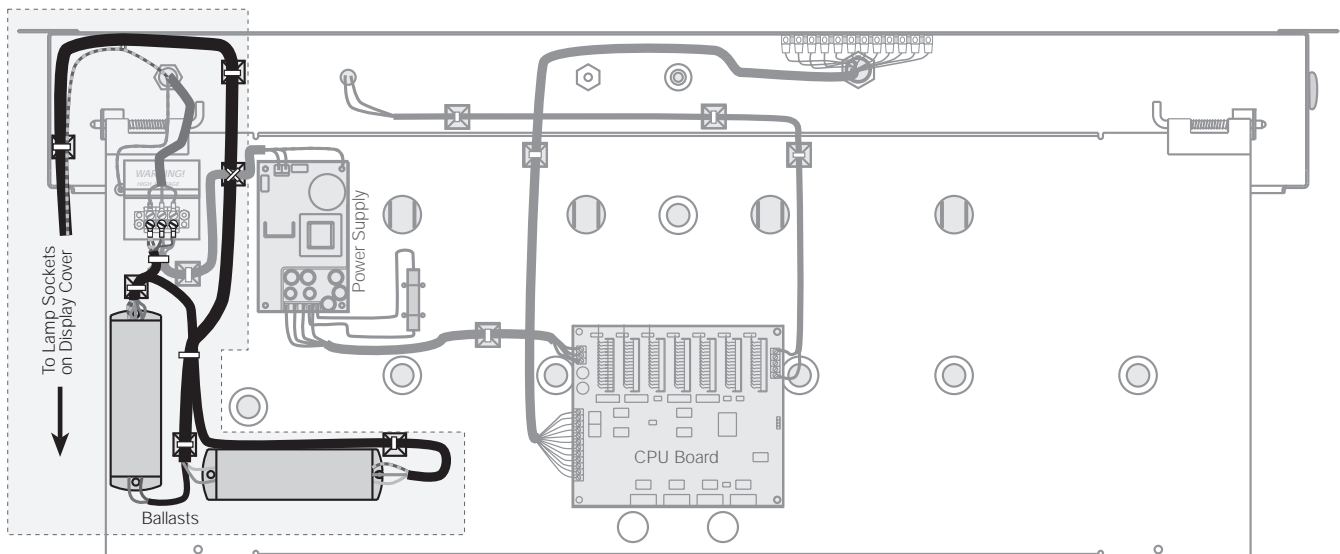

Figure 2. Flip Digit Mounting Panel, Showing Installed Backlighting Option
6. Route wires from ballast to bulb socket locations. Install cable ties and cable tie mounts as shown in Figure 2. When done, return the flip digit mounting panel to operating position.